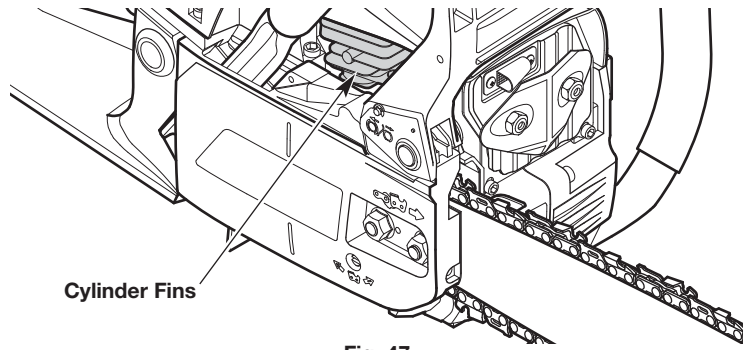

Fig. 47
4. Use compressed air, up to 40 PSI, to blow debris from the cylinder fins (Fig. 47). The cylinder fins must be cleaned on a regular basis to reduce the risk of personal injury or damage to the unit as a result of fire. Always use safety goggles/glasses when using compressed air. Do not use water or other liquids to clean the cylinder fins. Use a small wire brush to remove stubborn debris. If a significant amount of debris remains, have the unit cleaned by a Sears or other qualified service dealer.